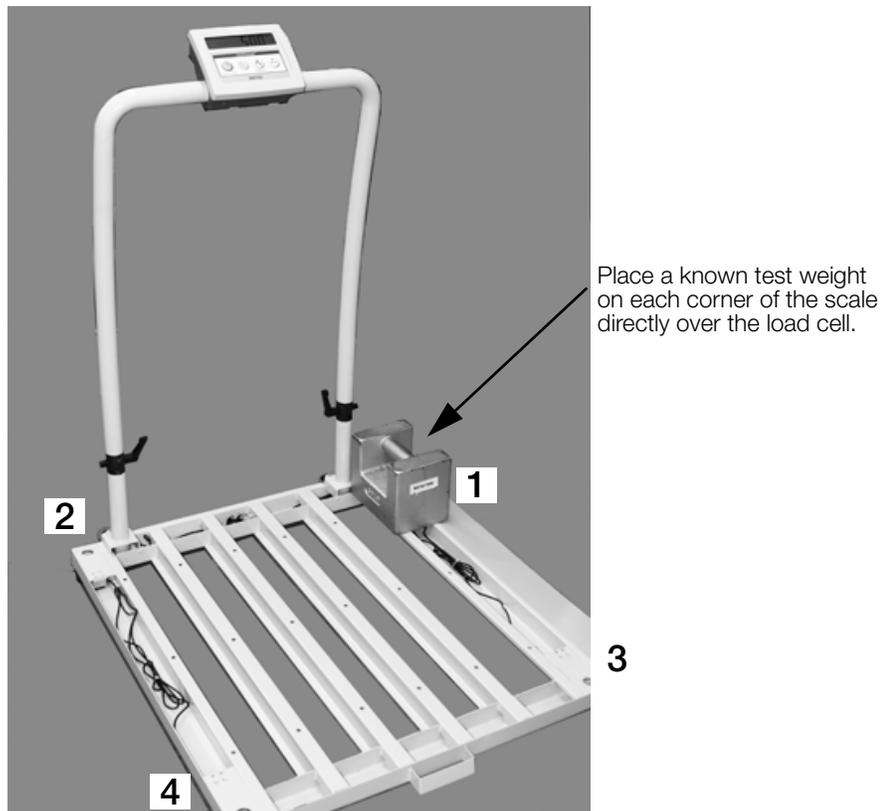

Figure 8-1. Wheelchair Trimming Corners Sequence
1. Zero the indicator and place a calibrated 70 kg test weight over each load cell in turn as shown below in Figure 8-1 starting in the following sequence.
- Start with the furthest left hand corner (1)
- Nearest lefthand corner (2)
- Furthest righthand corner (3)
- Nearest righthand corner (4)